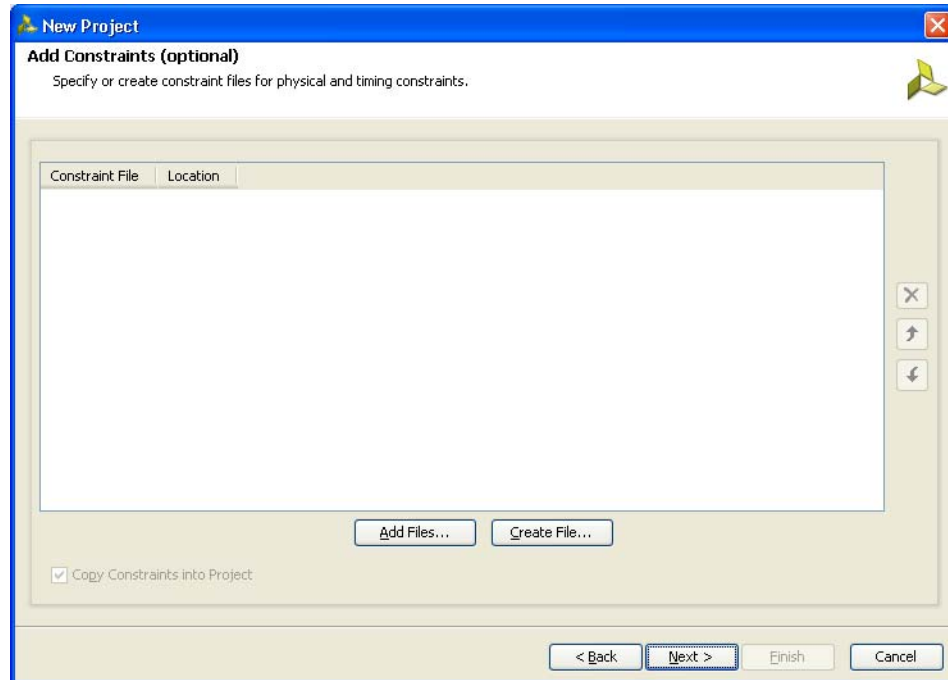

Figure 5-7: Add Constraints (Optional)
7. Click **Next** to open the **Add Constraints (Optional)** page (Figure 5-7). If the constraints file exists in the repository, it can be added to the project. Proceed to the next page if the constraints file does not exist.